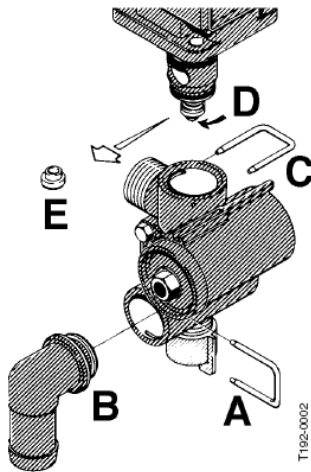

Fig 57
- 1 Cautiously remove the Clip (A Fig 57) and pull out Hose (B Fig 57) from the pressure equalisation device.
- 2 When the housing is drained, there should be no liquid flow through the pressure equalisation device. If there is any leakage, valve cone (E Fig 57) must be changed.
- 3 Remove Clip (C Fig 57) and lift the EC motor housing off the valve housing.
- 4 Then unscrew the screw (D Fig 57).
- 5 Replace the valve cone (E Fig 57).